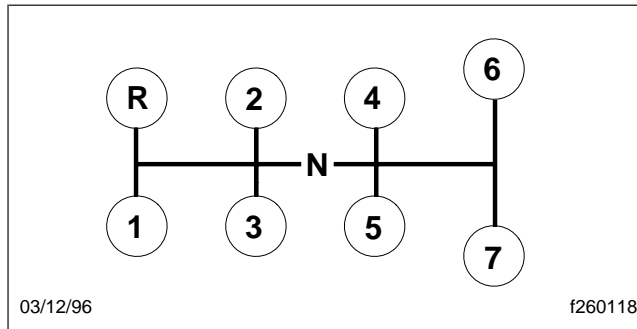

Fig. 8.15, Spicer 7-Speed Transmission Shift Pattern
Spicer 7-speed series transmissions are synchronized in all gears except 1st and reverse. They have seven forward gears and one reverse gear. See Fig. 8.15 for the shift pattern.
4. Continue shifting upward, using the same sequence described in step 3 above. See **Fig. 8.15** for the shift pattern.